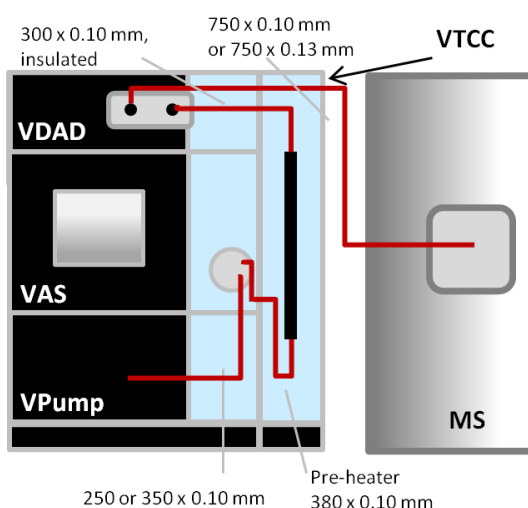

Figure 10. Setup for a Vanquish system with optical detector as front-end for Orbitrap Exploris/Orbitrap Tribrid/Ion Trap/Triple Quadrupole mass spectrometers.
- 2) Stack the modules as shown below and make all fluidic connections using Viper capillaries, according to Figure 10. The picture illustrates the course of the flexible Viper capillaries in general. Thermo Fisher
- 2) Stack the modules as shown below and make all fluidic connections using Viper capillaries, according to Figure 14. For further details about the course of the flexible Viper capillaries see Figure 10. Thermo Fisher Scientific recommends installing all capillaries inside the modules as needed. Table 14 provides a detailed overview on the capillaries used and where to find them.